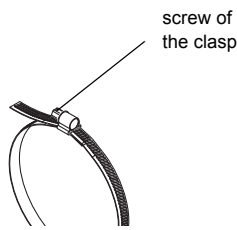

Fig. 9.13: Band clamp clasp with tension strap
- Place the tension strap around the pipe and insert it into the clasp (see Fig. 9.13).